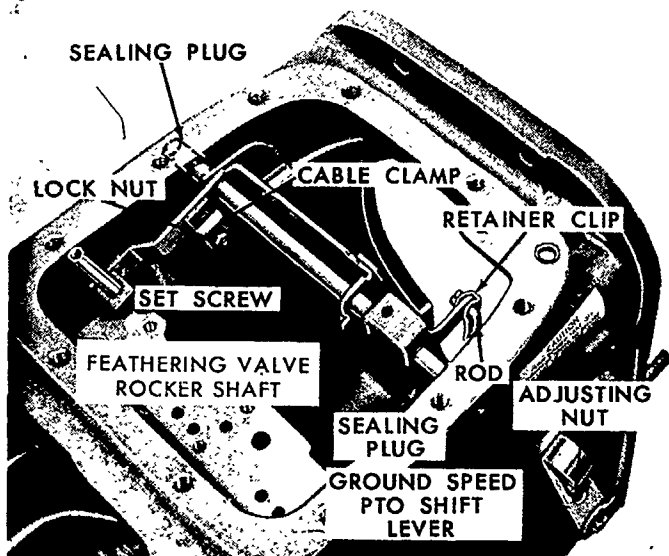

Figure 30
To prevent engaging both the ground speed P.T.O. and the engine P.T.O. at the same time, an interlock is provided, Figures 30 and 31. The interlock consists of a flexible cable, enclosed in a conduit. The cable connects the P.T.O. feathering valve rocker assembly and a plunger and bracket arrangement at the ground speed P.T.O. lever.
2. Position the ground speed shift lever in the forward notch to engage the ground speed P.T.O. If sufficient lever travel is not available, loosen the adjusting nut on the lever and reposition the lever plate. See Figure 30.
3. Loosen the lock nut and set screw in the cable clamp, shown in Figure 30.